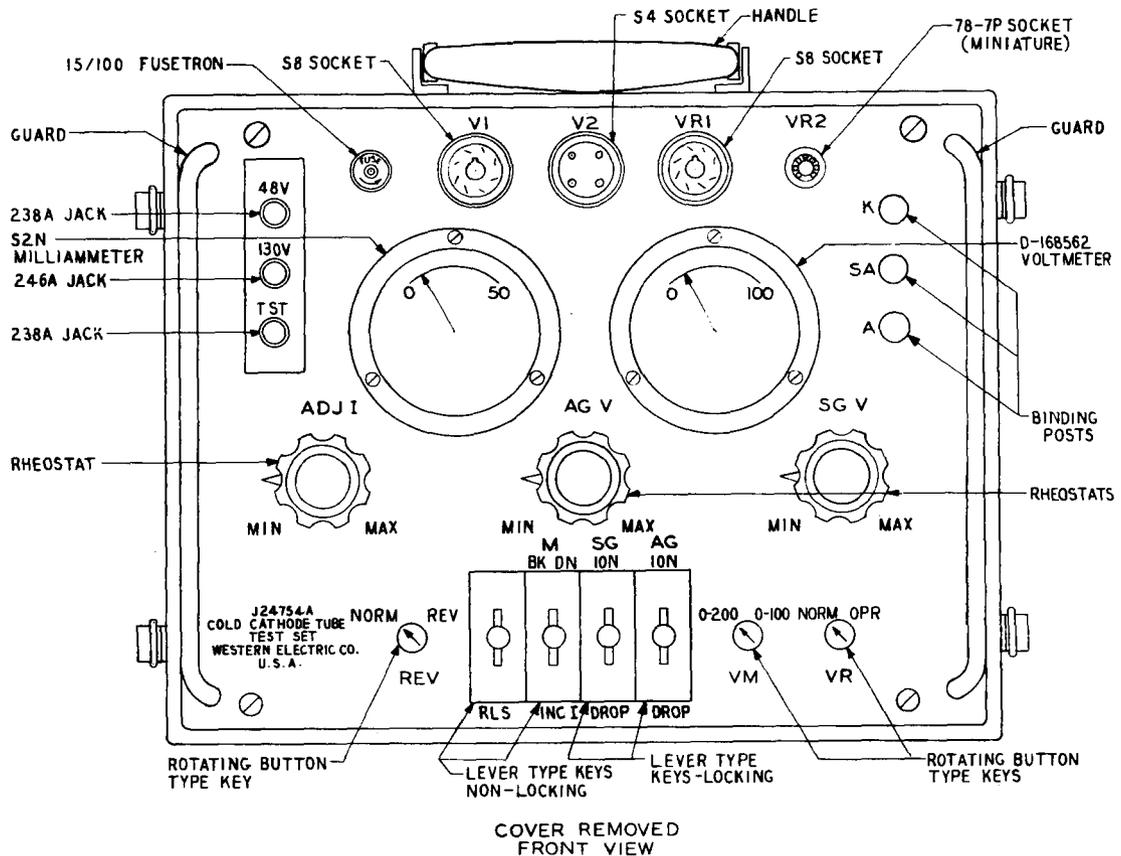

FIG. 1 COLD CATHODE TUBE TEST SET
2.01 The principal equipment of the test set consists of a voltmeter, a milliammeter, potentiometers, keys and jacks, all of which are encased in a standard metal portable test set box. The approximate dimensions of this box are 14" x 11" x 6". The apparatus which is exposed to view when the cover is removed is shown in Fig. 1.